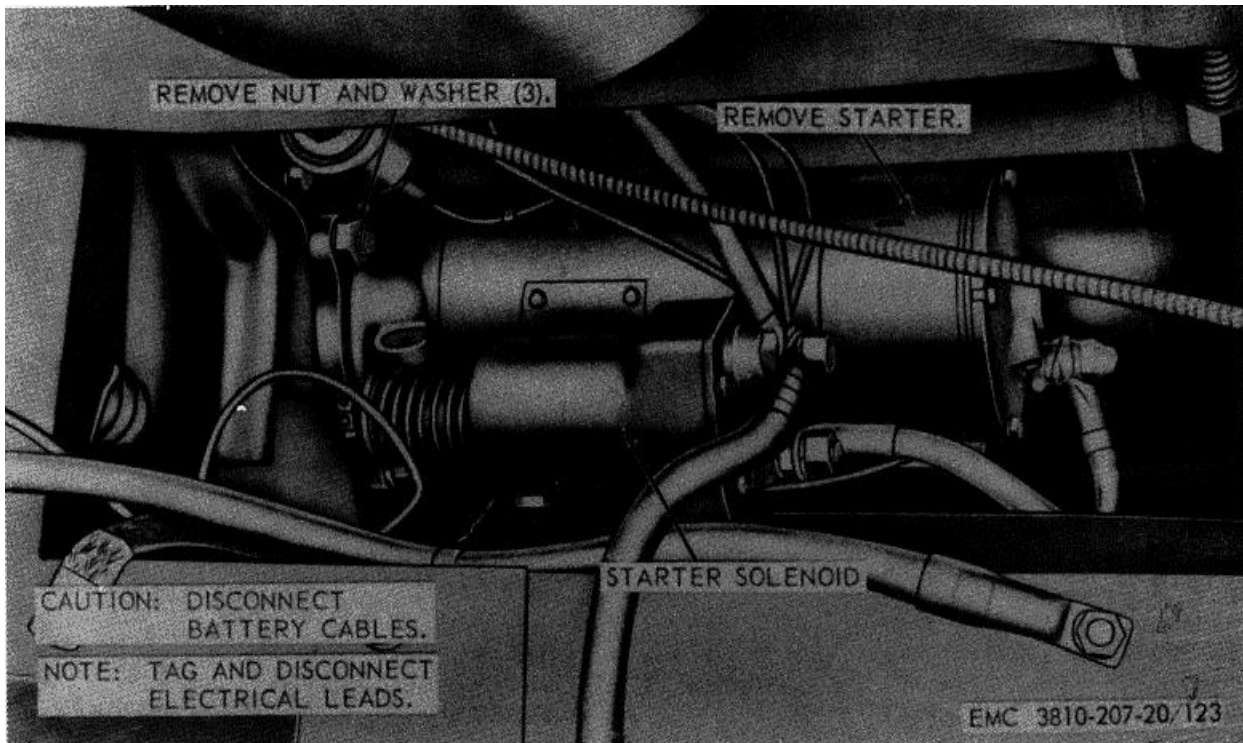

Figure 123. Starter assembly, removal and installation.
a. *Removal.* Remove the starter assembly as instructed on figure 123.
- (1) Clean the starter assembly with an approved cleaning solvent and dry thoroughly.
- (2) Inspect the starter assembly for proper operation. Replace a defective starter as necessary.
c. *Installation.* Install the starter assembly instructed on figure 123.